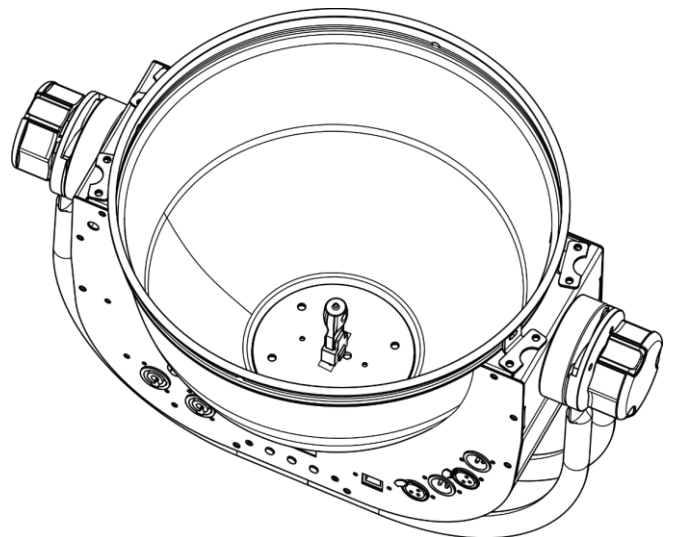
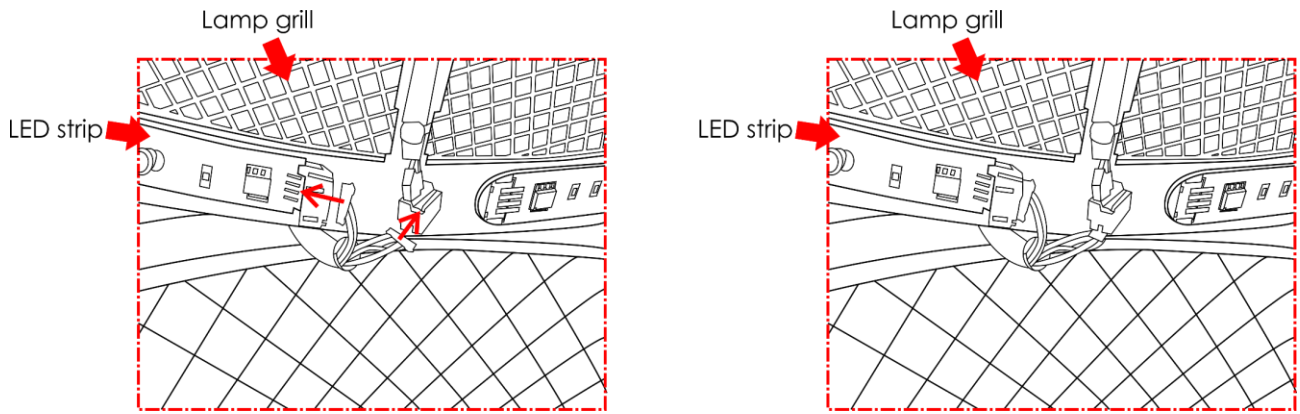

Fig. 09
Fig. 10
- 08) Replace the lamp grill (Fig.09) and fasten the 4 screws at the top of the fixture (Fig.10).